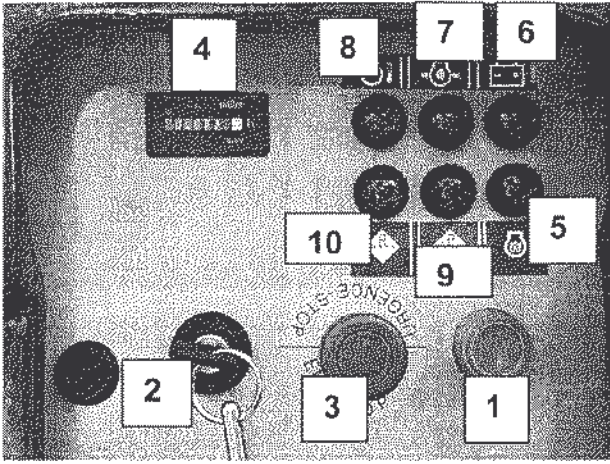

Figure 26-3 Turntable electricity box
2. Start the engine from the platform ignition lock 6 (figure 26-2), if you want to operate the MEWP from the platform. If you want to use the MEWP from the ground, start the engine from the operating point for ground guiding from ignition lock 2 (figure 26-3). When the booms are operated from the ground, the MEWP must be supported by the outriggers. Refer to OPERATING THE BOOMS FROM THE GROUND. Selection of the point of operating depends on where the combustion engine was started.